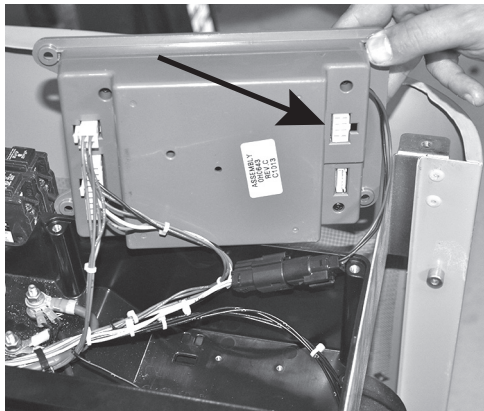

Figure 3-14. Raising Controller
18. Lift the controller to gain access to the accessory plug location. If there is a decal labeled "Port 1", remove decal to locate connector. If there is no decal, locate the open eight pin connector on the underside of the generator controller. See Figure 3-14. Install the harness eight pin connector into the controller's open socket.